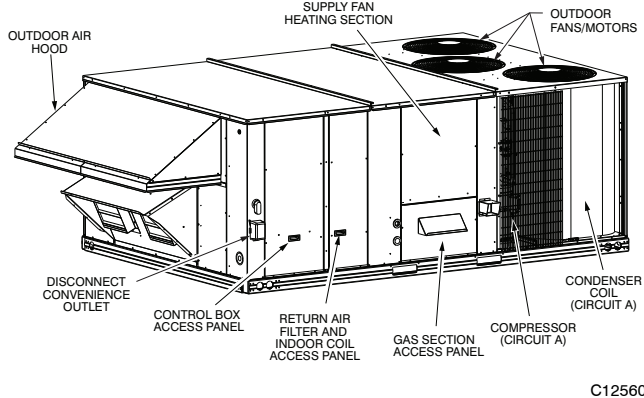
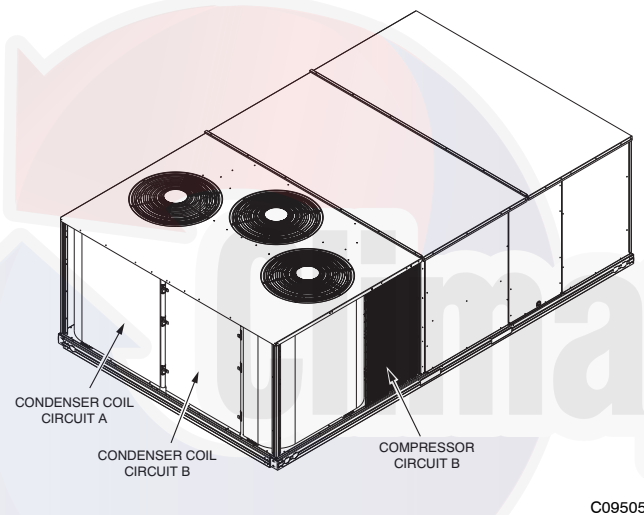

Fig. 1 - Access Panels and Components, Front
Fig. 2 - Typical Access Panel Location, Rear
Fig. 1 and Fig. 2 show general unit arrangement and access locations.
Return air filters are disposable fiberglass media type. Access to the filters is through the vertical panel to the right of the control box. Filters are situated on slide out racks for easy inspection and repair. See Fig. 1.
1. Remove the Return Air Filter and Indoor Coil Access Panel. See Fig. 1.
The outdoor air hood inlet screens are permanent aluminum-mesh type filters. See Fig. 2. Inspect these screens for cleanliness. Remove the screens when cleaning is required. Clean by washing with hot low-pressure water and soft detergent. Replace all screens before restarting the unit. Observe the flow direction arrows on the side of each screen frame.